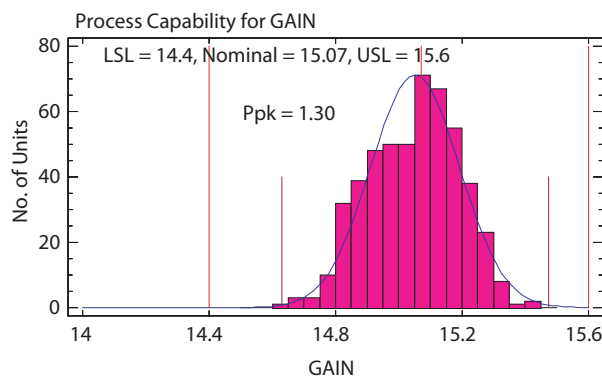
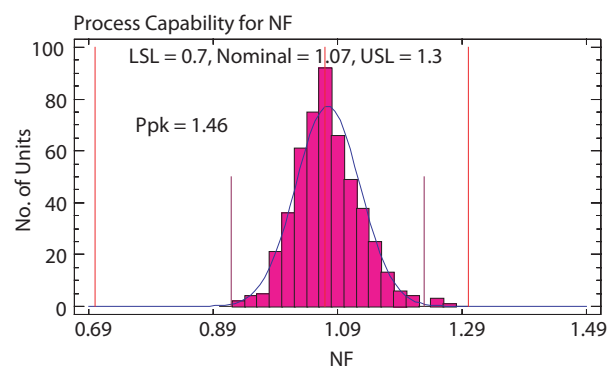

Figure 1. Gain @ 2.4 GHz , V_d 3V; V_{bypass} 1.8 V
Figure 2. NF @ 2.4 GHz , V_d 3V; V_{bypass} 1.8 V
- Measurements at 2.4GHz obtained using demo board described in Figure 1, with component values on Figure 2 (2.3 – 2.4 GHz)